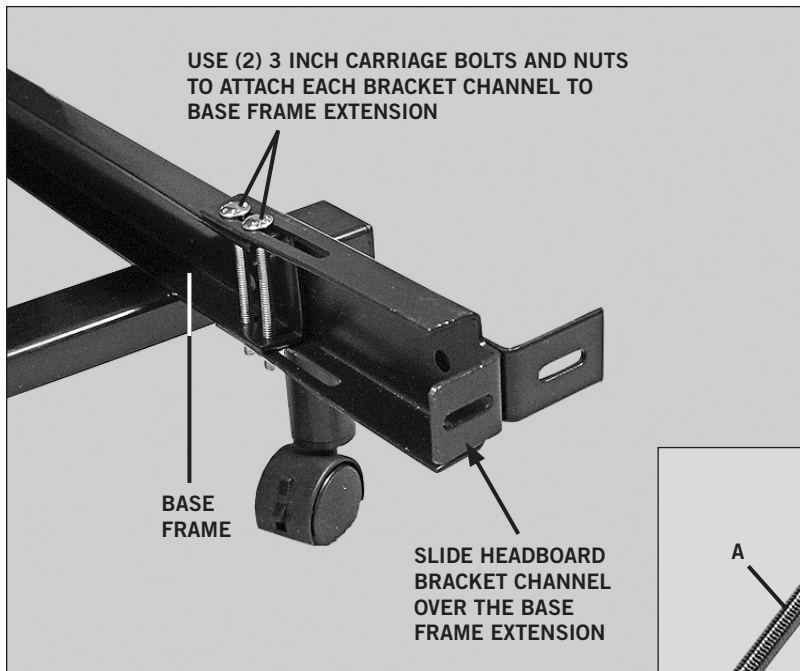
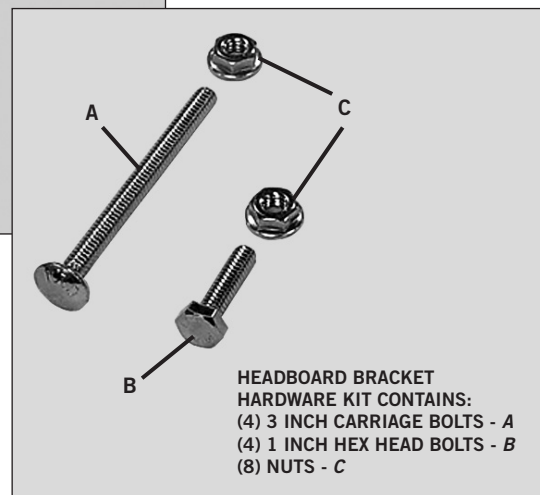

FIGURE 8: Headboard bracket channel installation (*one each side of the head section of the base*).
FIGURE 9: Headboard bracket hardware.
- b. Slide one headboard bracket channel onto one side of the base frame. Using (2) carriage bolts/nuts (**FIGURE 8**) attach channel to base frame (**FIGURE 9**). Hand tighten bolts/nuts (loosely) to allow adjustment of the headboard bracket channels. Repeat procedure to install the other headboard bracket channel to the other side.